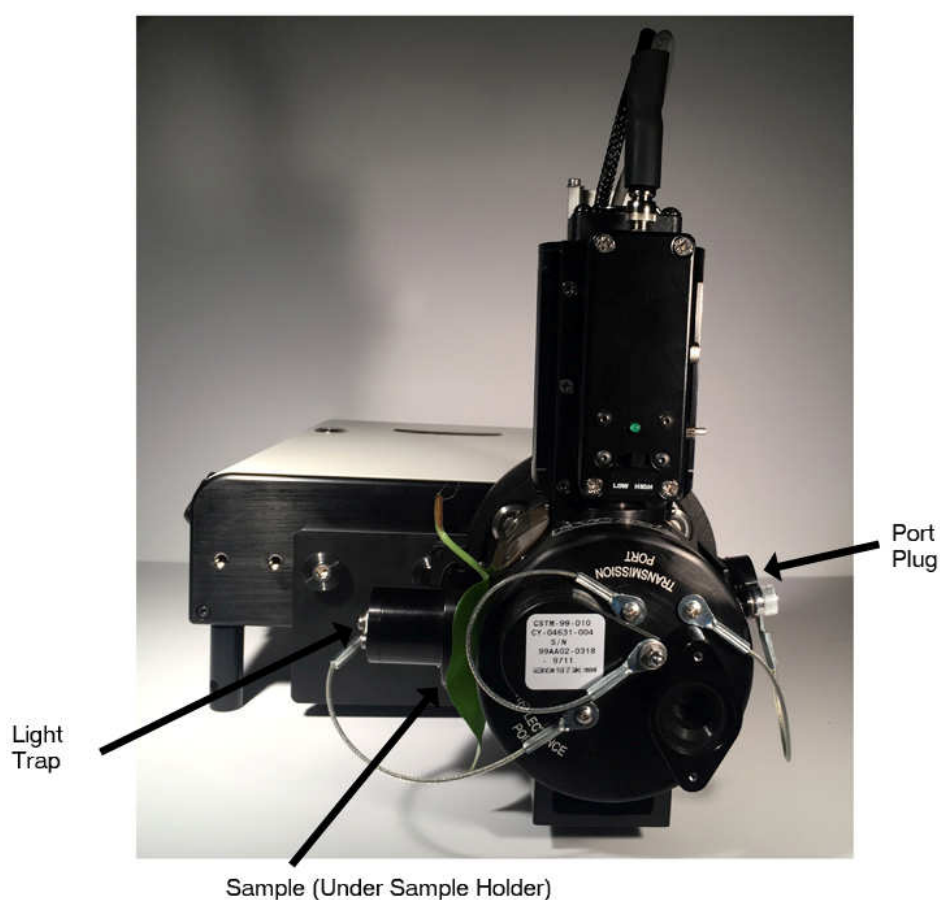

Figure 17: Sphere-only transmittance measurement configuration
2. Loosen the two thumb-screws on top of tethered primary light port plug. Lift the port plug and place it in the primary light port, tighten its thumb-screws to securely mount it against the sphere, as shown in Figure 17.
4. Pull the reflectance port sample holder, and place the sample (i.e. a leaf) against the sphere reflectance port and release the sample holder, as shown in Figure 17.